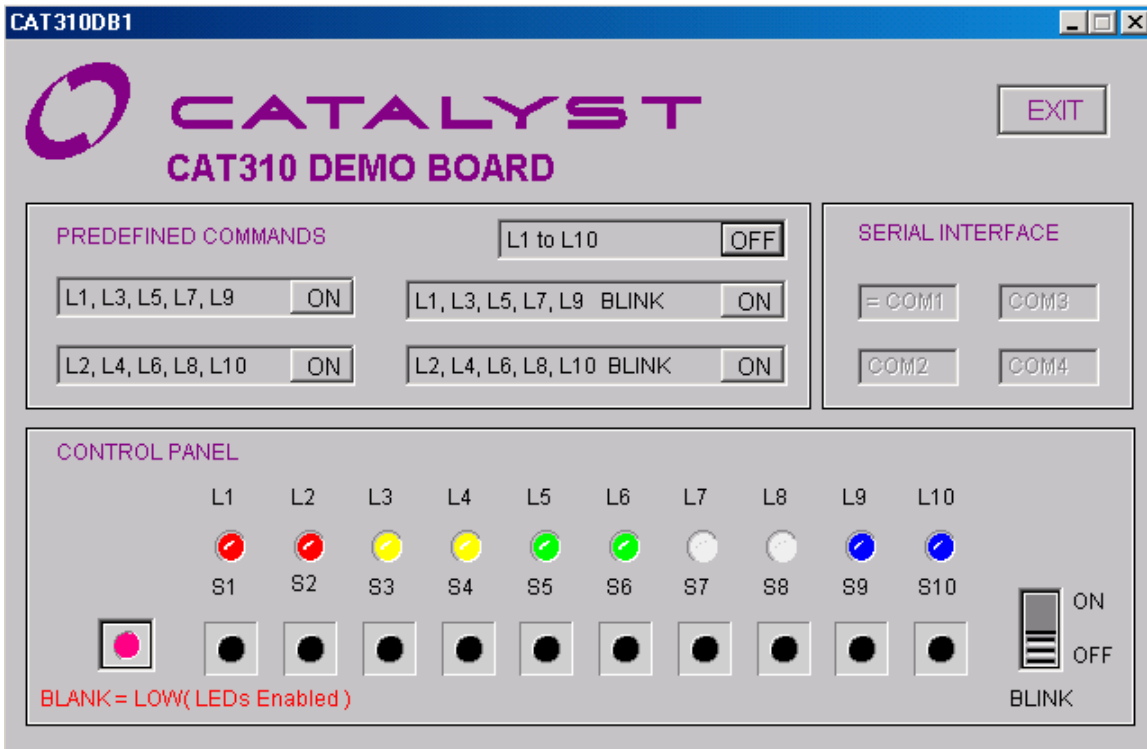

Figure 5. CAT310DB1 with all the LEDs ON using the Predefined Command
- Set all the LEDs, L1 to L10, ON or OFF (Figure 5)
Figure 5 shows the window after the user has executed the predefined command “L1 to L10 ON. All the LEDs are lighting (BLANK = LOW). After the executing one of the predefined commands, in the window will be displayed the next command which can be executed. In this example, at the next action of the same button, L1 to L10 will be OFF.